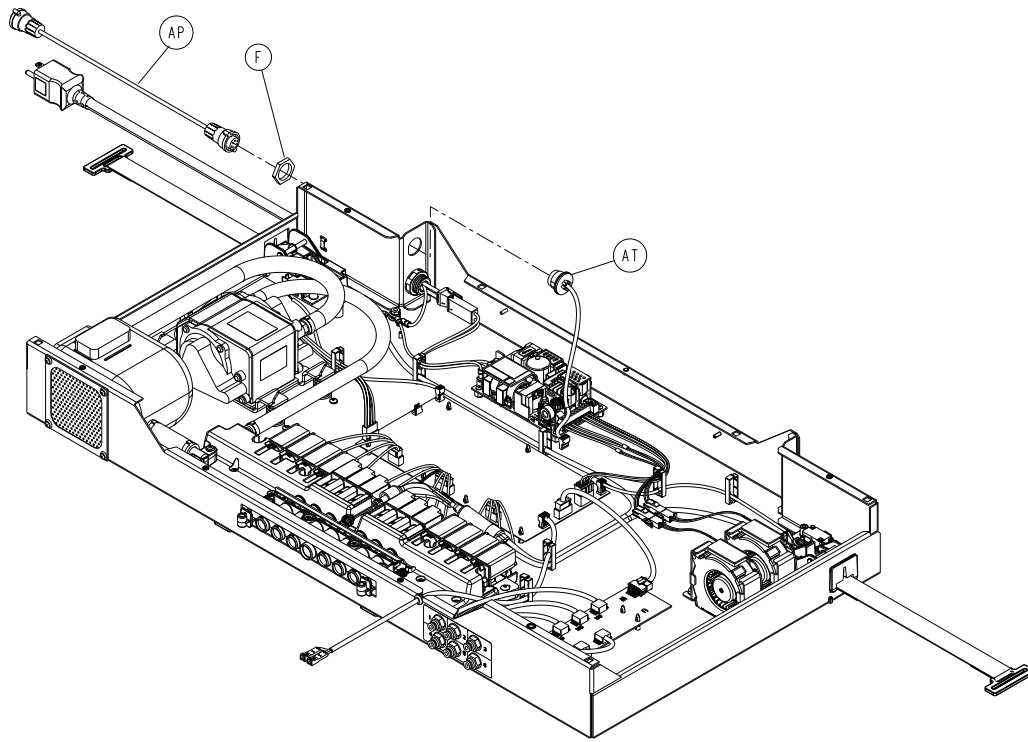

Figure 16 – Bed integration cable connector
2. Using your fingers, disconnect the bed integration cable connector (AP) from the foot box and rotate the turn-lock counterclockwise (Figure 16).
3. Using a 1" combination wrench, remove the plastic retaining nut (F) on the bed integration cable connector that secures it to the foot box. Save the nut.
4. Disconnect the can inner cable (AT) from the main board (connector J) (Figure 16).